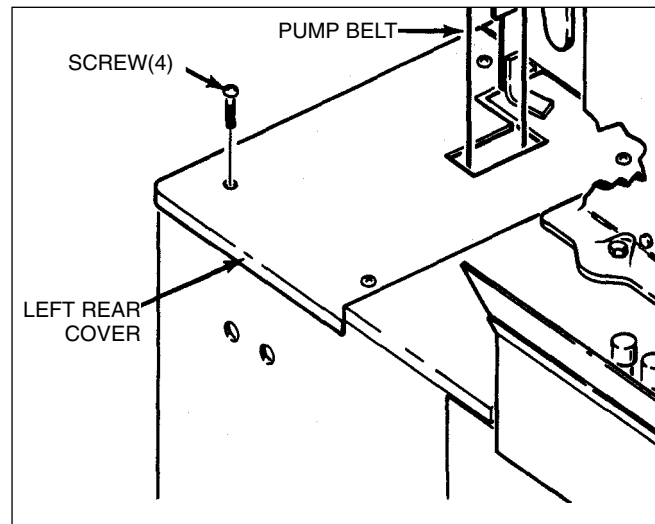

FIGURE 1-3, Oil Pump
3. Remove Left Rear Cover of machine base and remove Oil Pump Belt (*see Figure 1-3*).